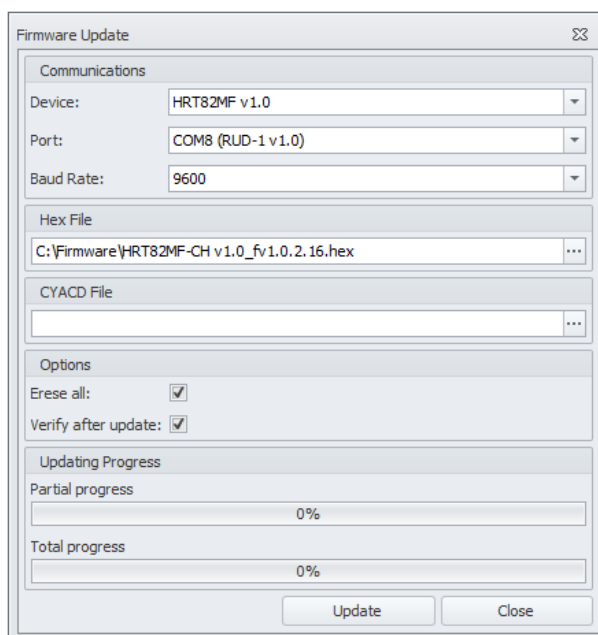

Fig. 9 Firmware update window in RogerVDM software
5. In the opened window select device, port with connected RUD-1 and specify path to firmware file (\*.hex) – see fig. 9